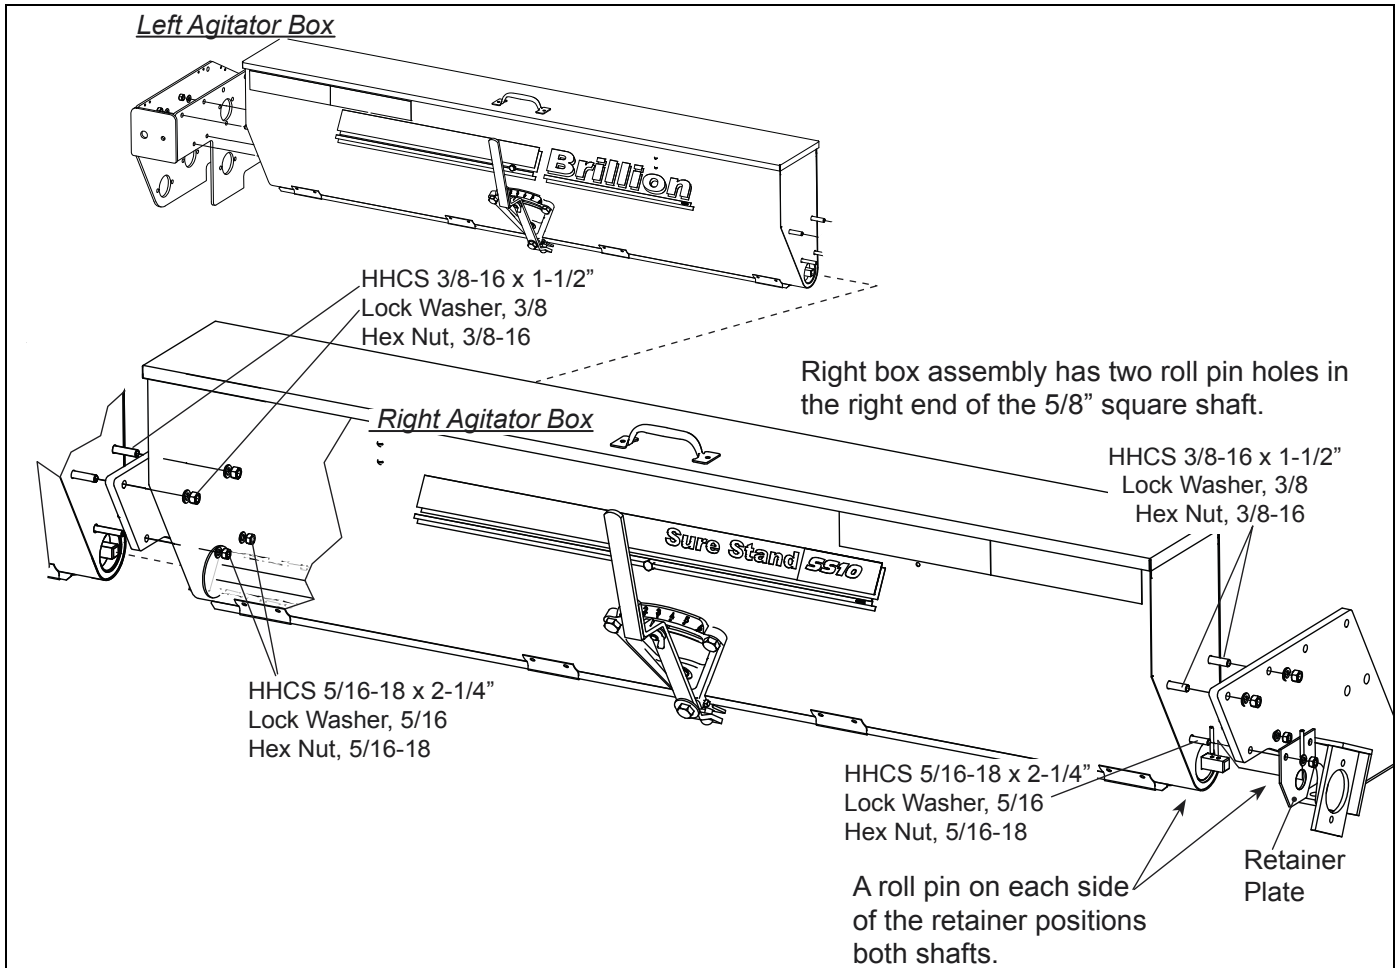

Figure 2-33: Left and Right Agitator Boxes
4. Install the left and right boxes as shown. Left box fastens to transmission with two 5/16" x 1-1/2" and two 3/8" x 1" cap screws, lock washers and nuts. Left box assembly is the one with one hole in the left end of the 5/8" square shaft. This hole is used only for a shipping wire. See Figure 2-33.